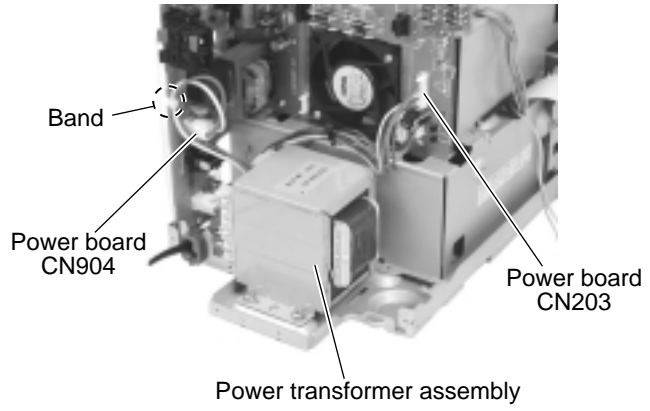

Fig.34
■ **Removing the power transformer assembly (See Fig.34 and 35)**